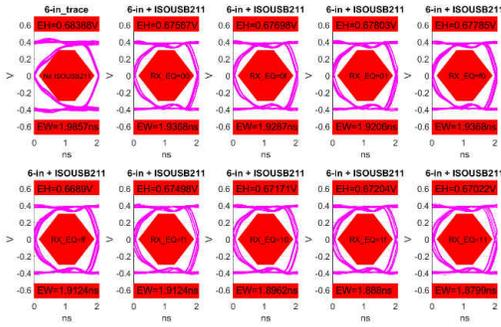

Figure 4-7. NE RX\_EQ 6-inch Trace
Figure 4-7 through Figure 4-12 show the eye-diagram measurements with Figure 3-2 setup that uses the receiver equalizer to compensate for the trace loss. The transmitter pre-emphasis is set to 00 throughout the measurements. As mentioned, due to the fact that the On-Off Keying circuitry in the isolator of the ISOUSB211 generates a fresh copy of the signal based on the logic of input signal, this cannot justify the receiver equalizer performance by gauging the eye-height (EH). The output jitter of the ISOUSB211 is additive from the uncompensated input jitter and the jitter generated by the On-Off Keying circuitry. We can pinpoint the optimal receiver equalizer settings for each trace length by judging the eye-diagram that has the wider eye-width (EW) or lowest jitter as shown in Figure 4-12.